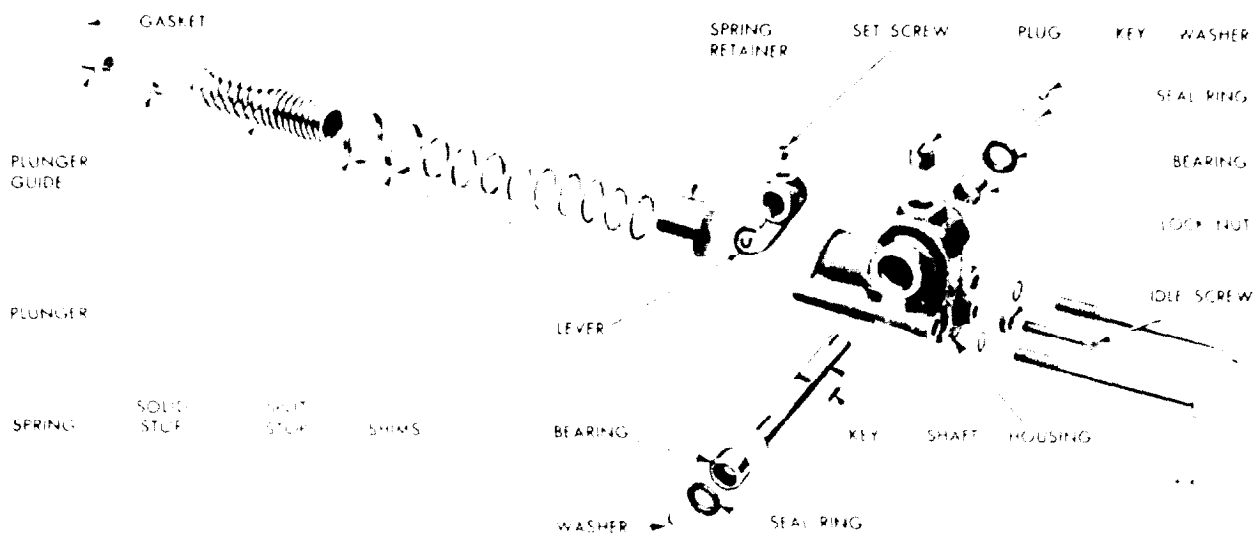

Figure 11C-72. Variable Speed Spring Housing Details
8. Remove the bearing pilot rod J9196-2 from installer body J 9196-1 and place the installer body over the end of the shaft and against the bearing. Support the spring housing, bearing and installer on a short sleeve on the bed of an arbor press as shown in Figure 11C-73, then press the bearing in the housing until the shoulder on the installer contacts the housing.
9. If a single lever shaft was installed in the spring housing, apply a thin coat of sealing compound to the outside diameter of the cup plug. Start the cup plug straight in the bearing bore in the housing, then support the spring housing, bearings and shaft assembly on a sleeve on the bed of an arbor press, and press the cup plug in flush with the outside face of the housing (see Figure 11C-71 on page 11C-43).